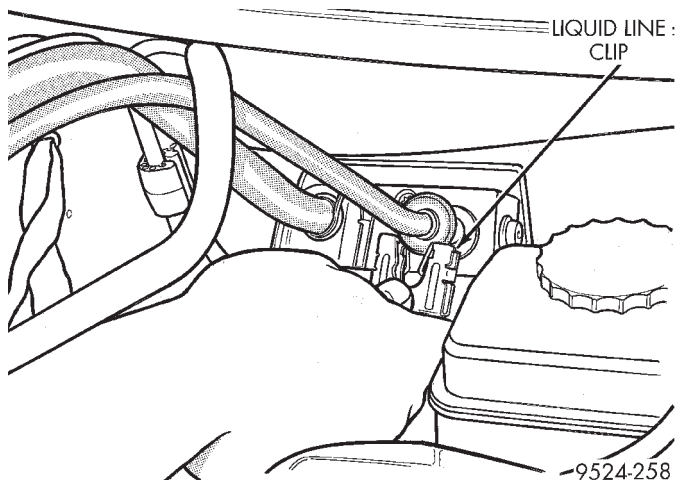
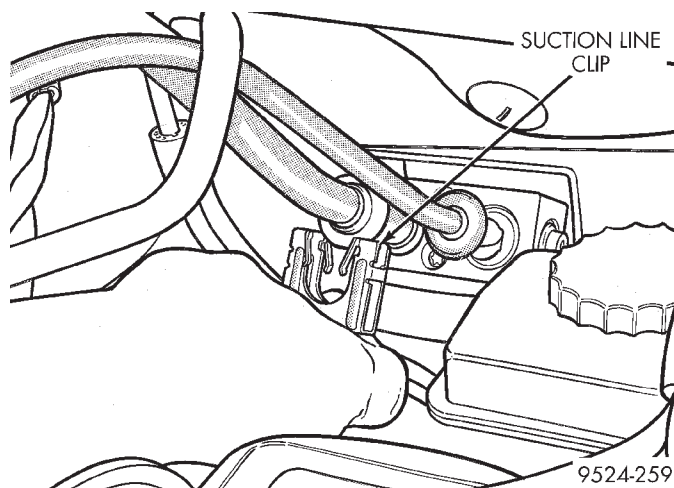

**Fig. 44 Liquid Line Clip**
**Fig. 45 Suction Line Clip**
- (1) Remove refrigerant from the A/C system using a refrigerant recovery machine.
- (2) Disconnect clips from expansion valve lines (Fig. 44) and (Fig. 45).